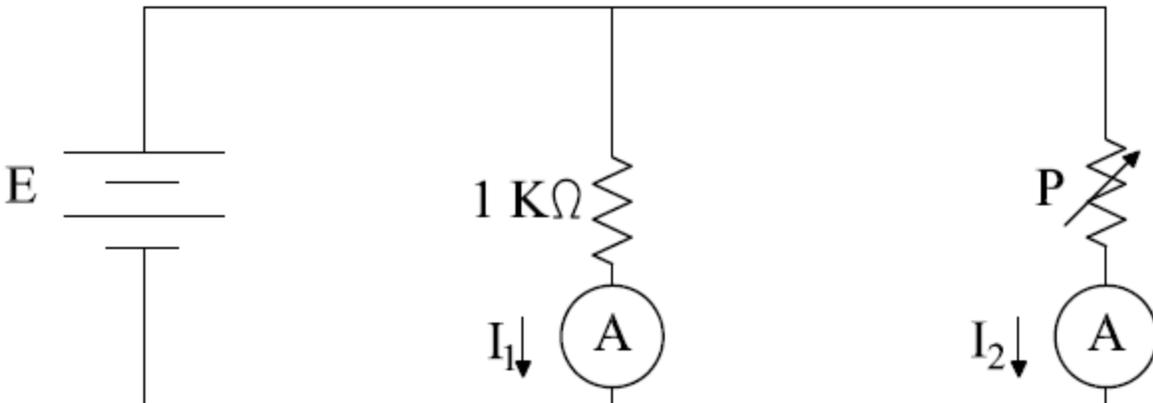

Fig4: circuit of part 2
1. Connect the circuit as in fig 4